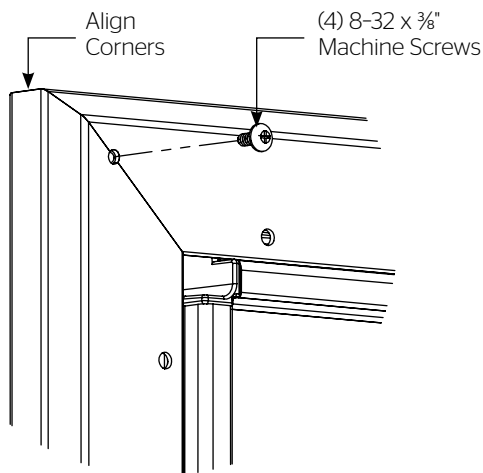

Figure 4
2. Align corners and insert one 8-32 x  $\frac{3}{8}$ " screw in each corner to attach the outer bezel onto the inner frame assembly (Figure 4).